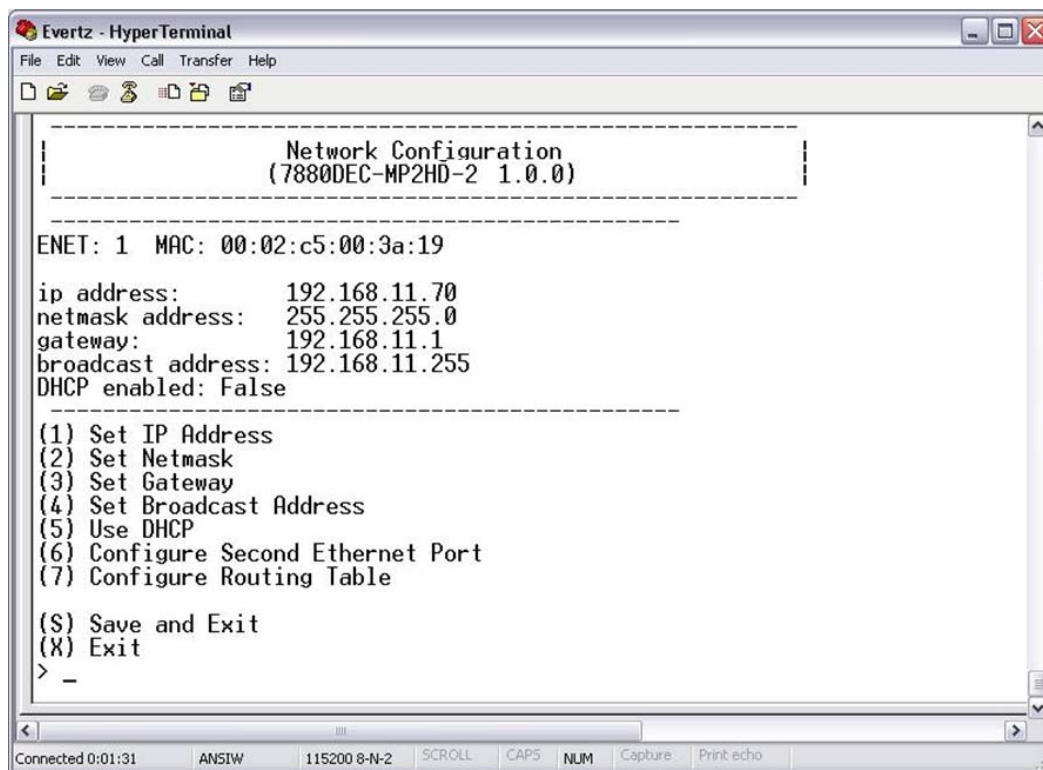

Figure 2-5: Network Configuration Sub-Menu
Now select option (1) *Network Configuration*, the Network Configuration menu will be displayed as shown in Figure 2-5. If you prefer to use DHCP then you may select option (5) *Use DHCP*, and then continue from step 4:
1. Select option (1) *Set IP Address* and configure the IP address for the 7880DEC-MP2HD-2 ensuring that the IP address is not already in use on the network.
2. Now select option (2) *Set Netmask* and configure the correct subnet mask for your network.
3. If required also configure option (3) *Set Gateway*.